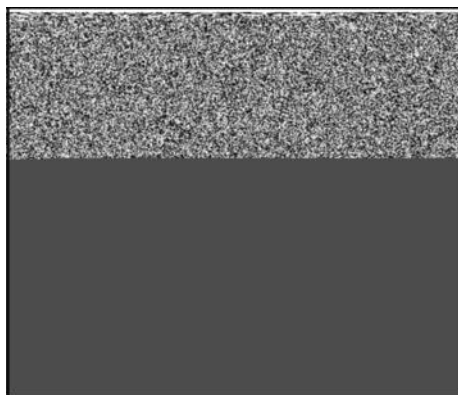

Figure 4
1. Disconnect spring from brake anchor (A, Figure 4).
2. Disconnect stop switch wire from stop switch (B). If engine is equipped with an electric starter, disconnect both wires from the starter interlock switch (C).
3. Remove two screws (D) from brake bracket and remove bracket.